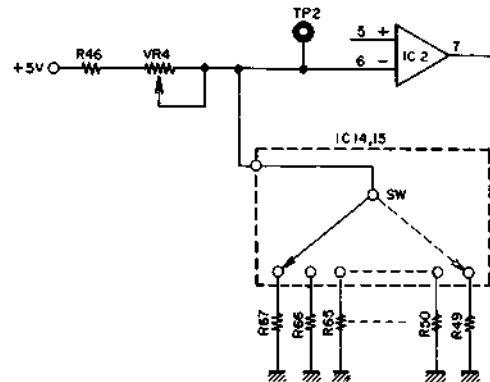

Fig. 26
- 3) Supplied to ⑥ of IC2 is the step-like reference voltage which is generated by IC14, IC15, Micro-computer, TR11 and resistors connected to them. Fig. 26 illustrates the generation of the step-like reference voltage. Moving the switch (SW) in the direction shown causes various levels of voltage to be generated at TP2 as +5V is divided by R46, VR4 and R67, R66 . . . or R49. The actual switching between IC14 and IC15 is effected by controlling TR11, IC14 and IC15 with signals delivered from the microcomputer. The relationship between signals from the microcomputer and the action of IC's 14 and 15 is shown below: